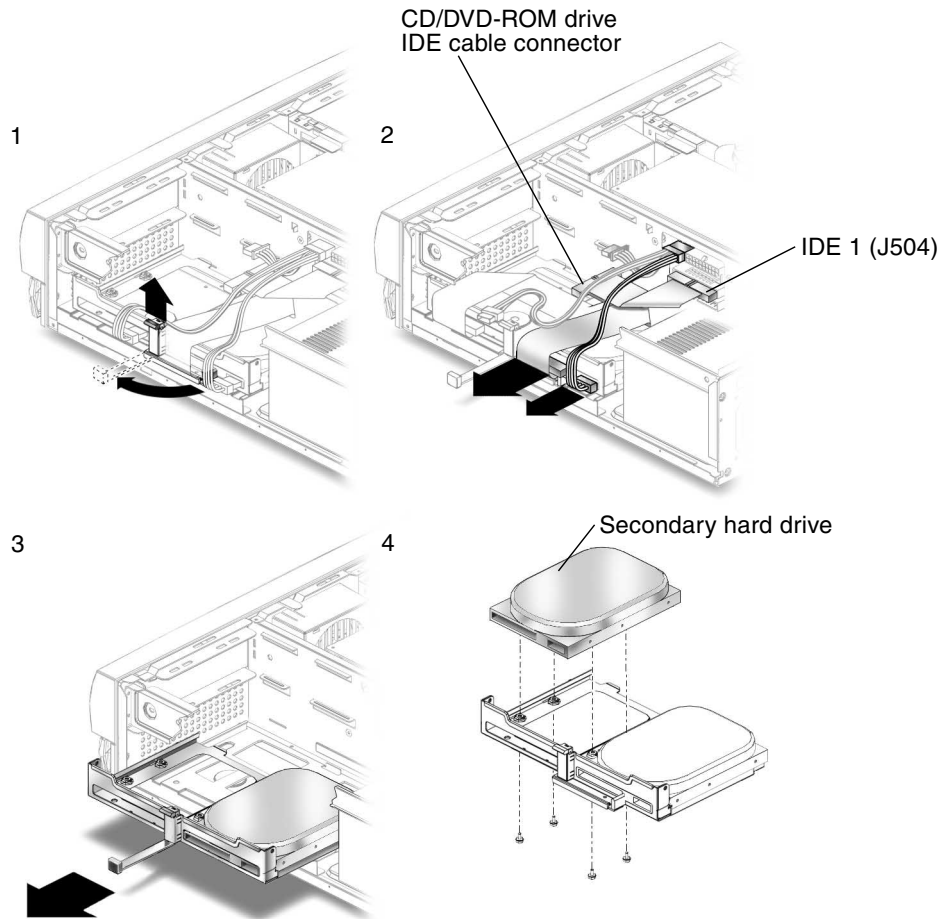
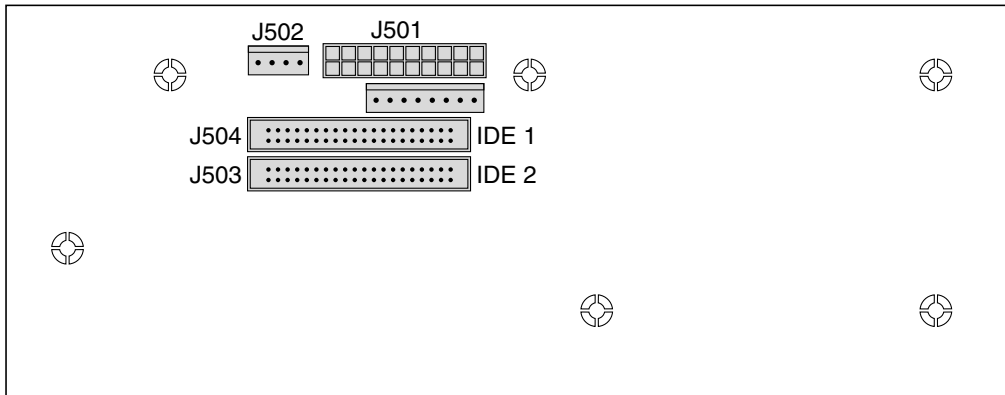

FIGURE 5 Installing a Secondary Hard Drive
FIGURE 6 Riser Board, Side Two
The optional secondary hard drive mounts next to the primary hard drive on the hard drive tray (FIGURE 5). The secondary IDE cable assembly is used with the secondary hard drive. Use the following procedure to install the optional secondary hard drive.
2. **Lift the spring-loaded latch upward to release the hard drive tray from the chassis (FIGURE 5).**
11. Verify that the CD-ROM or DVD-ROM cable is connected to the primary (IDE1, J504) cable connector labeled CD/DVD (FIGURE 5 and FIGURE 6).